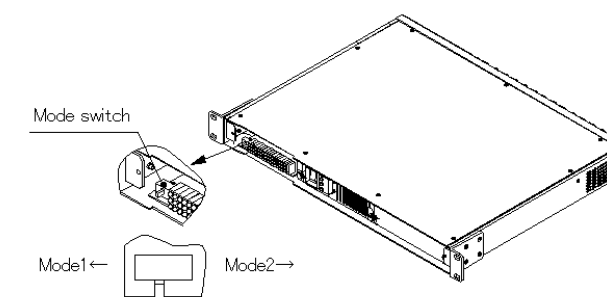

Figure 5 Mode switch of the alarm output
- Two sets of alarm modes are supported. Initial factory setting is mode 1. Select the alarm mode which you like. Set the alarm mode switch at the left hand after removing front cover <3>, as shown in Figure5